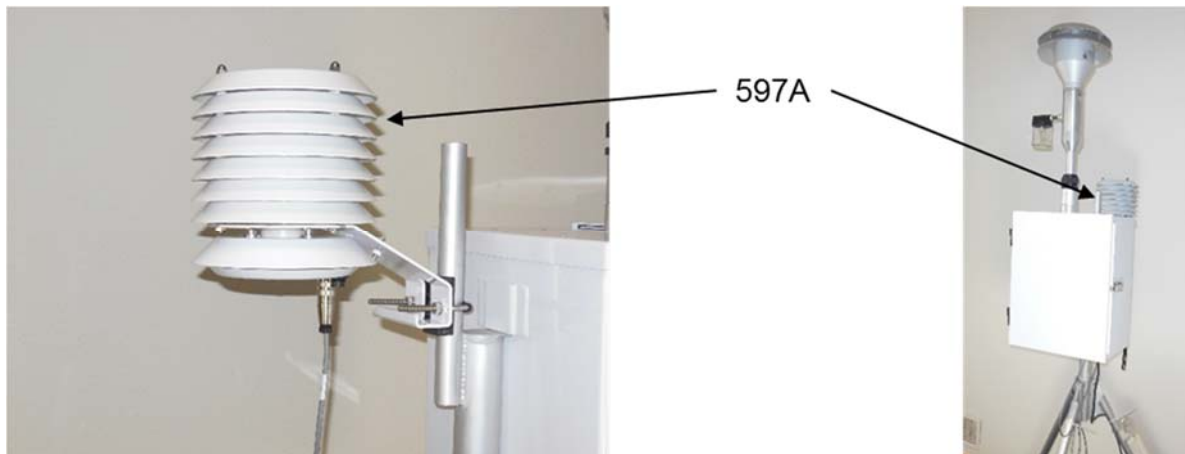

Figure 2-3 Mounting the 597A Sensor
4. **Install 597A Sensor:** Connect the 597A sensor to the post on the back of the tripod with the supplied mounting hardware (user supplied 7/16" wrench required). The 597A sensor should face away from the E-BAM as shown in Figure 2-3. Verify configuration after power- up as detailed in section 2.7.1.